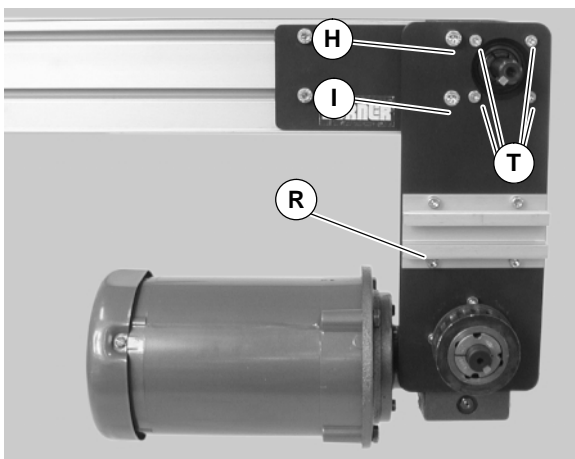

Figure 21
- d. Remove mounting screws (H, I and T of Figure 21) and remove drive package (R).